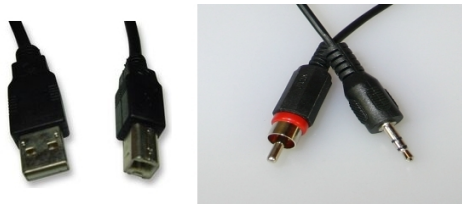

Figure 4 *The USB-A-B cable (on the left) and the Line-in cable.*
- Line-in cable — A cable with an RCA plug on one end and a stereo 3.5 mm phone plug on the other end (see Figure 4). This cable connects a Sound output of the Syncbox with the line-in of a PC or amplifier.
- X-keys USB cable - A USB-A-B cable that connects the X-keys outputs to a USB port on a test PC (see Figure 4).